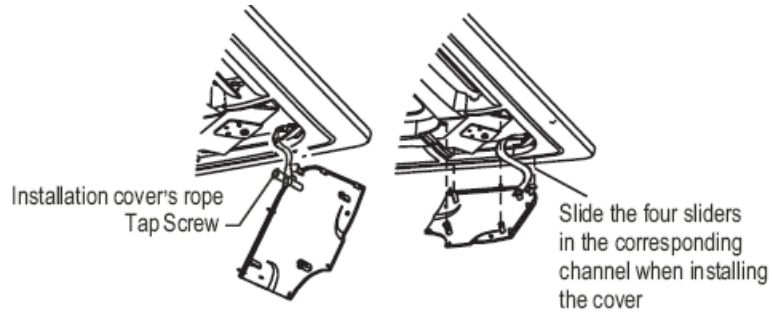

Fig.4-16
- You can modify the height of the indoor unit through the openings on the panel's four corners, if the lift of the indoor unit and the drainpipe is not influenced *(refer to Fig.4-16-right)*.
- Fasten the rope of installation cover on the bolt of the installation cover. *(Refer to Fig.4-16-left)*
- Press the installation cover into the panel slightly. *(Refer to Fig.4-16-right)*